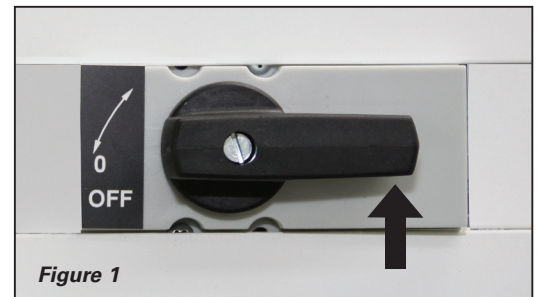

Figure 1
3. Look for a small hole in the bottom face of the handle shown on figure 1 & 2. If this hole is present, there is no need to replace the handle.